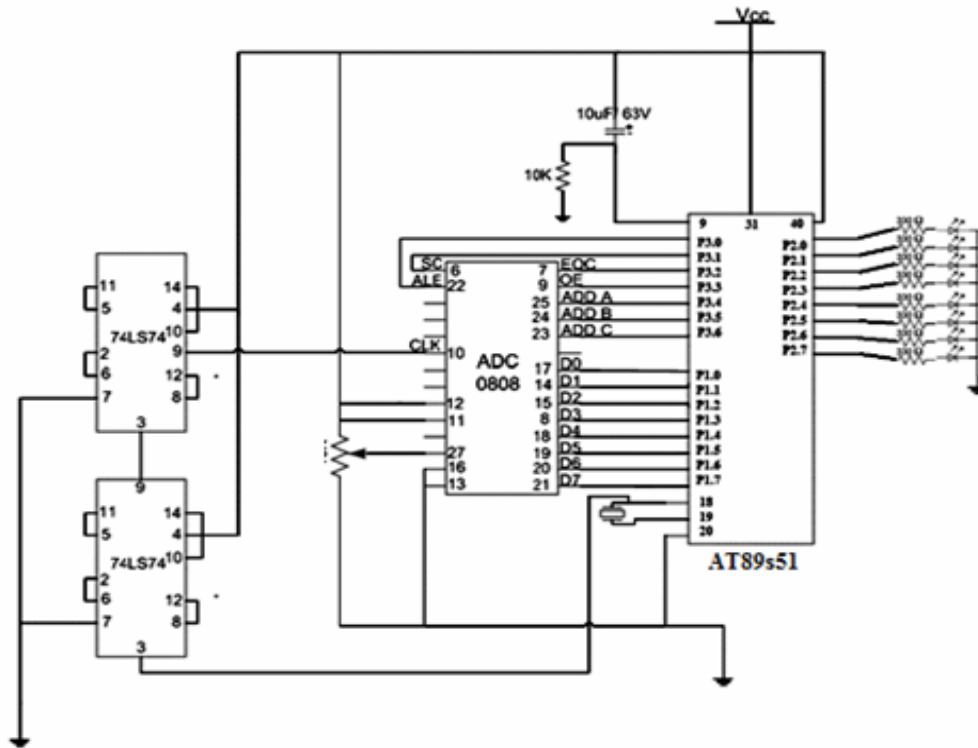

Figure 13.2: 89C51 connection to LED and switch
8. Interface ADC0808 to microcontroller as per circuit diagram shown in Figure.13.2